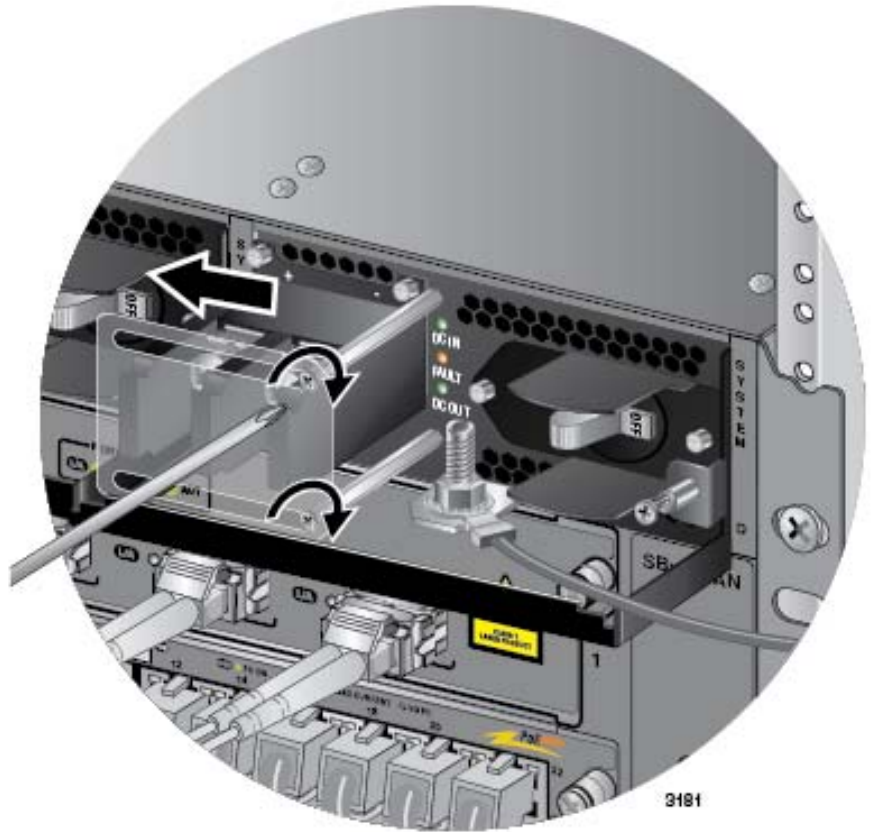

Figure 177. Closing the Plastic Cover
8. Slide the plastic cover to the left and lightly tighten the two screws to secure it in place. Refer to Figure 177 on page 300.